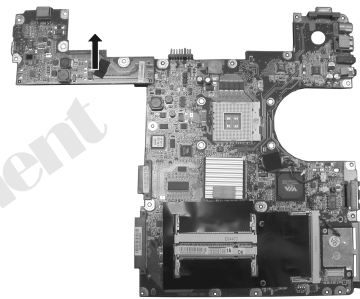

Figure 2-30 Free the system board
7. Separate the daughter board from the system board and free the system board. (Figure 2-30)